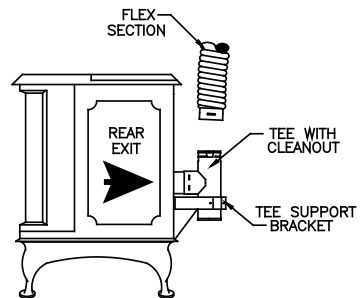

Figure 22
9. If a Tee or Tee Adapter is necessary to make the connection, as shown in (Figure 22), the Tee has a removable Clean out Adapter on its base to enable cleaning. The Tee Support Bracket to hold the Tee to the rear of the appliance is mandatory. If it is desired to mount the Tee Support to the rear of the stove, obtain approval from the manufacturer of the stove before drilling, tapping, or performing any other alterations to the appliance.